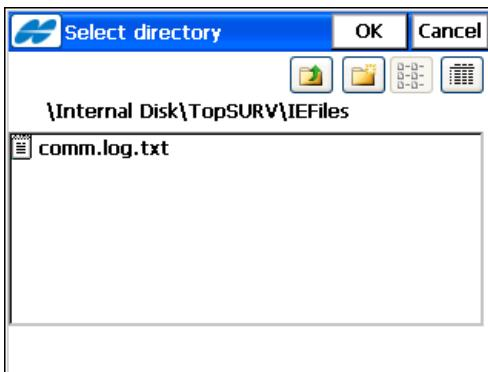

Figure 4-28. Select Directory
- Next – with the help of the export wizard, follow next screens to export points. Note that while exporting, TopSURV creates three files for every code in the selected directory (Figure 4-28).